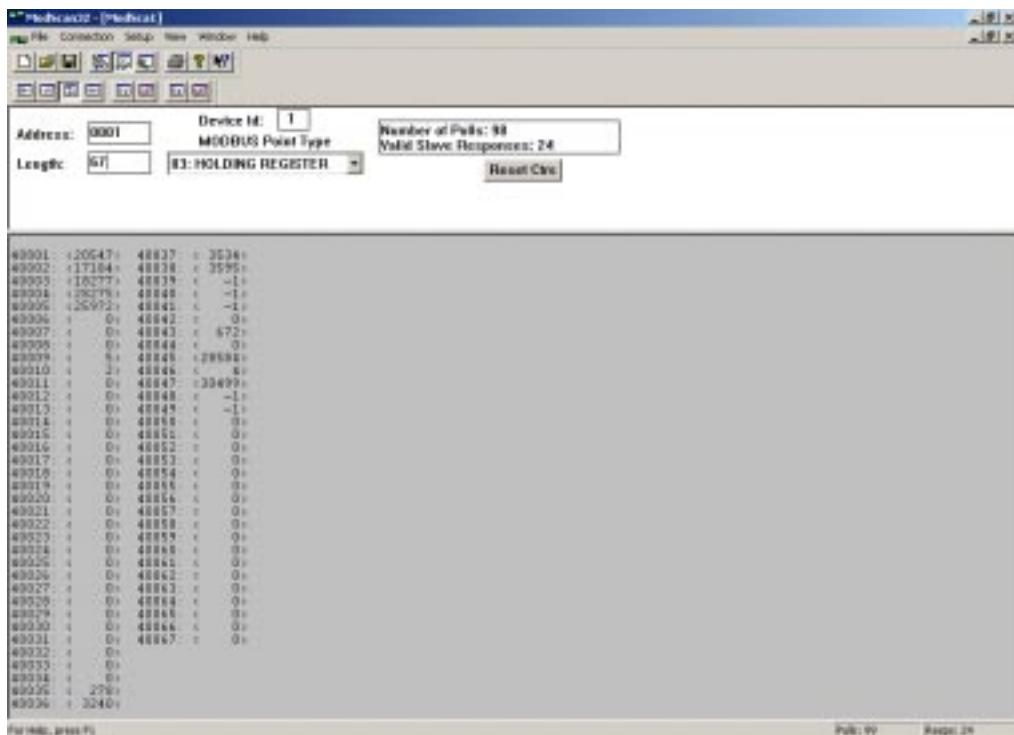

FIGURE 14. MODBUS POINT TYPE = HOLDING REGISTER
- On the main ModScan screen (see Figure 14), Change the Address to 1001, the Length to 49 (ModLon Mapping Option 1 Rev B) or 65 (ModLon Mapping Option 2 Rev B, ModLon Mapping Option 3 Rev B), and the Device ID to 1. From the MODBUS Point Type pull down menu, select “03: HOLDING REGISTER.”